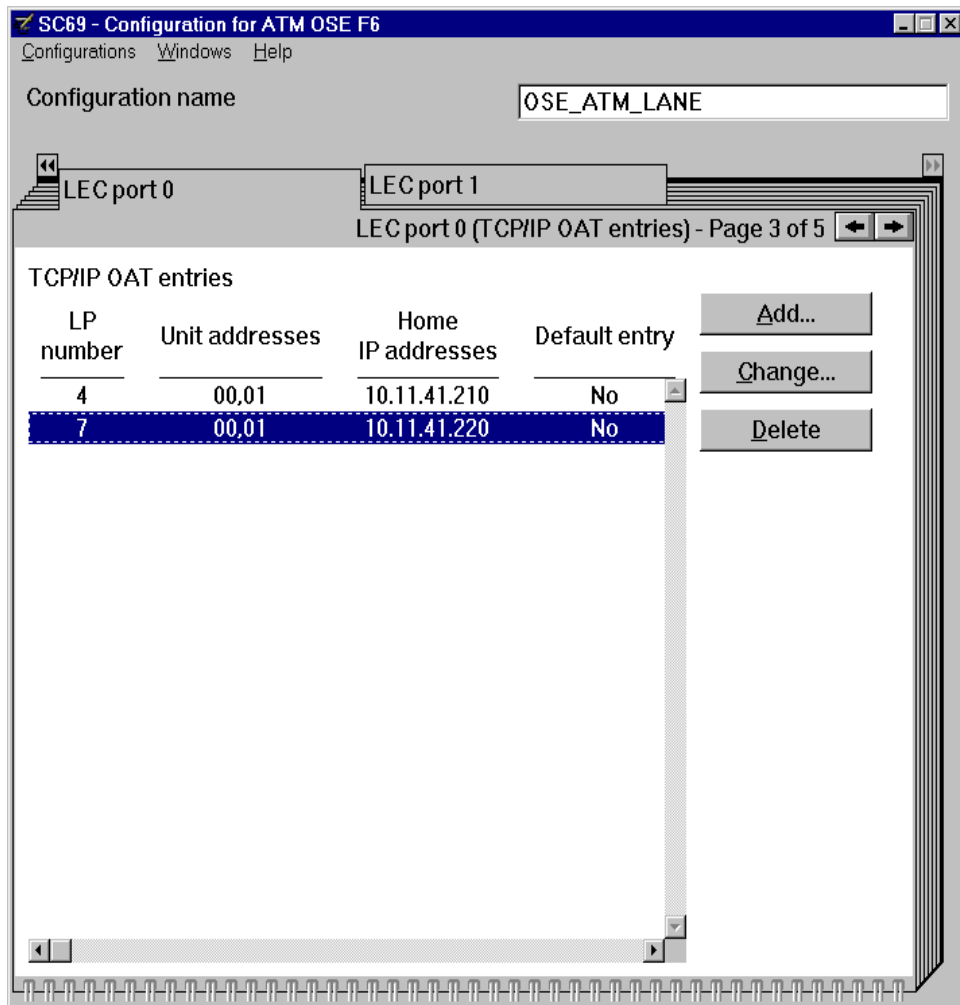

Figure 9-8 ATM LEC port 0 (TCP/IP OAT entries) - page 3 of 5
- b. After you have stored all your necessary IP addresses, click **Cancel**. This brings you back to the TCP/IP OAT entries, page 3, where you can recheck all TCP/IP OAT entries. For an example, refer to our TCP/IP OAT configuration for the logical port 0 in Figure 9-8 on page 125.